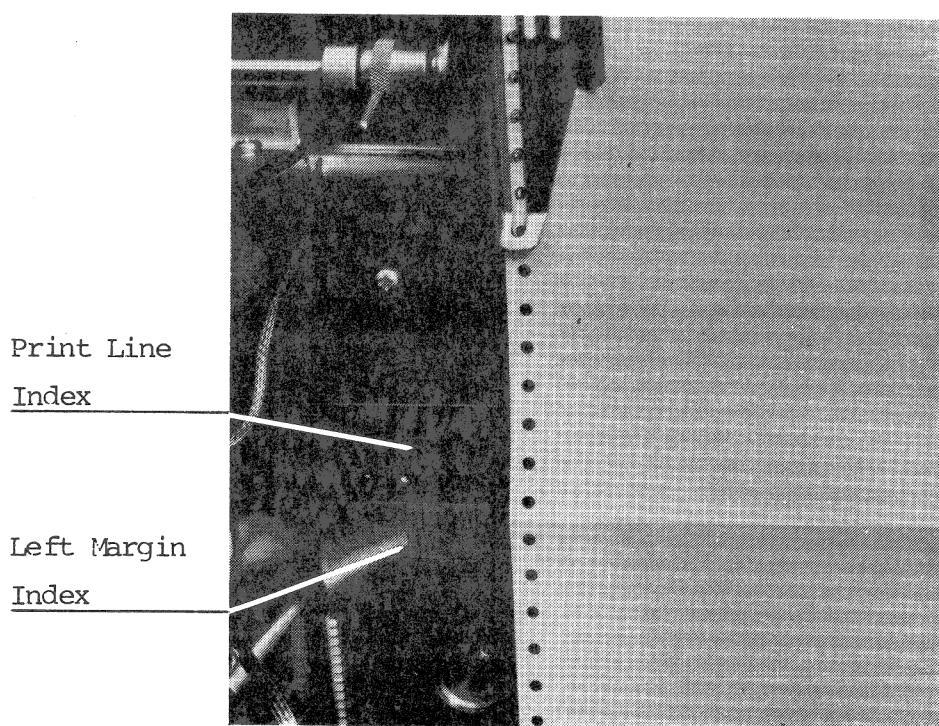

Figure 7: Adjustment indexes.
7. Fine adjustments of the paper form can be accomplished using the VERTICAL ADJUSTMENT (FINE) and the HORIZONTAL ADJUSTMENT handwheels. To support the adjustments the print line index and the left margin index are provided as indicated in fig. 7.